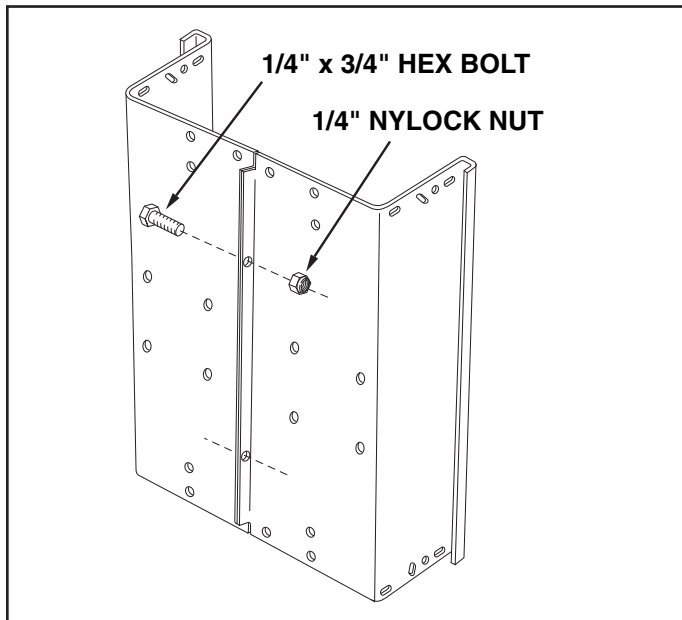

FIGURE 1
3. Position cart body halves upright on a smooth level surface such as a garage floor or a paved driveway. See figure 1.
4. Assemble halves together using two 1/4" x 3/4" hex bolts and 1/4" nylock nuts as shown in figure 1. **Do not tighten.**